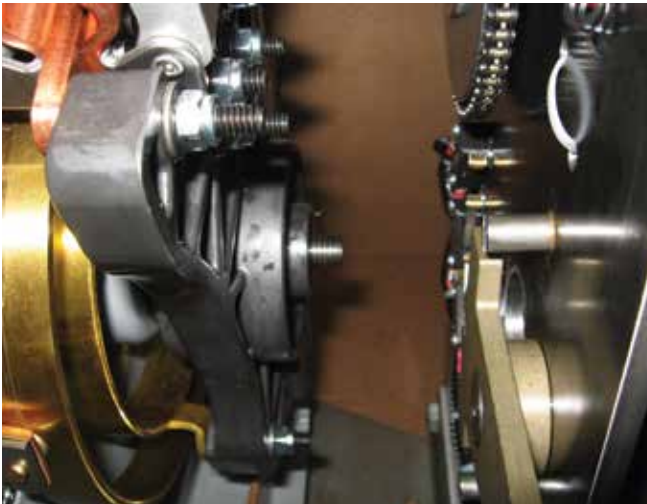

Figure 137. Removal of shaft.
- Push the threaded end of the main shaft through the steel panel toward the molded panel. Support the Geneva gear with one hand and pull the main shaft out from the back of the molded panel until the main shaft is out of the Geneva gear hub. Make sure the washer remains on the shaft and does not fall into the tank. Remove the Geneva gear and slide the washer off the shaft. Refer to Figure 137.